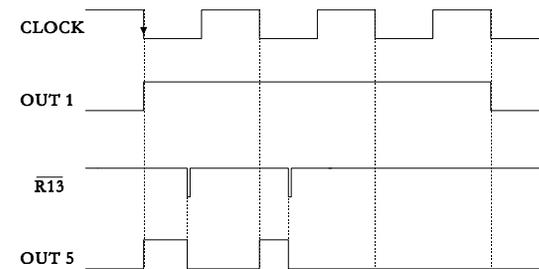
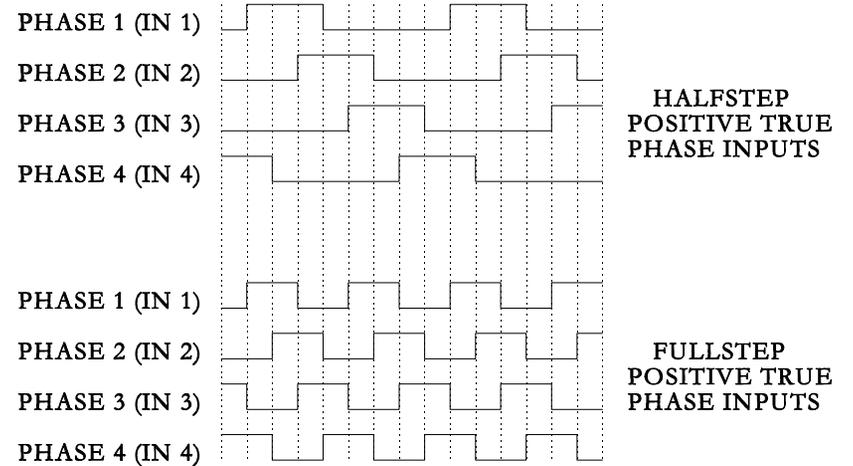

Figure 4: High Voltage Output (OUT5) vs. Reset (R13) and OUT1.
Figure 8: PHASE INPUT SEQUENCE
Each time the chip receives a clock signal, the phase outputs change state. When a phase output turns on, a high voltage output also turns on. This high voltage output is used to turn on a high-side switch. The high voltage output will stay on until the chip gets a reset signal. In Figure 4, OUT1 turns on when the CLOCK input goes low. OUT5 turns on at the same time. OUT5 stays on until the reset input, R13 goes low. The waveforms in Figure 4 are for half-step operation. In half-step operation, the phase outputs are on for three clock cycles. The high voltage output will turn on the first two of these cycles. If the reset input never goes low, the high voltage output will stay on. In full-step operation, each phase output is on for two clock cycles and the corresponding high voltage output will turn on at the beginning of each clock cycle.
**PHASE INPUTS:** Half-step or Full-step sequence phase inputs may be used to synchronize multiple axes. Only the phase input sequences shown in Figure 8 may be used. The phase input sequences in figure 4 produce clockwise motor movement. The phases may be reversed to obtain counterclockwise motor movement. Positive or Negative true phase inputs may be used.